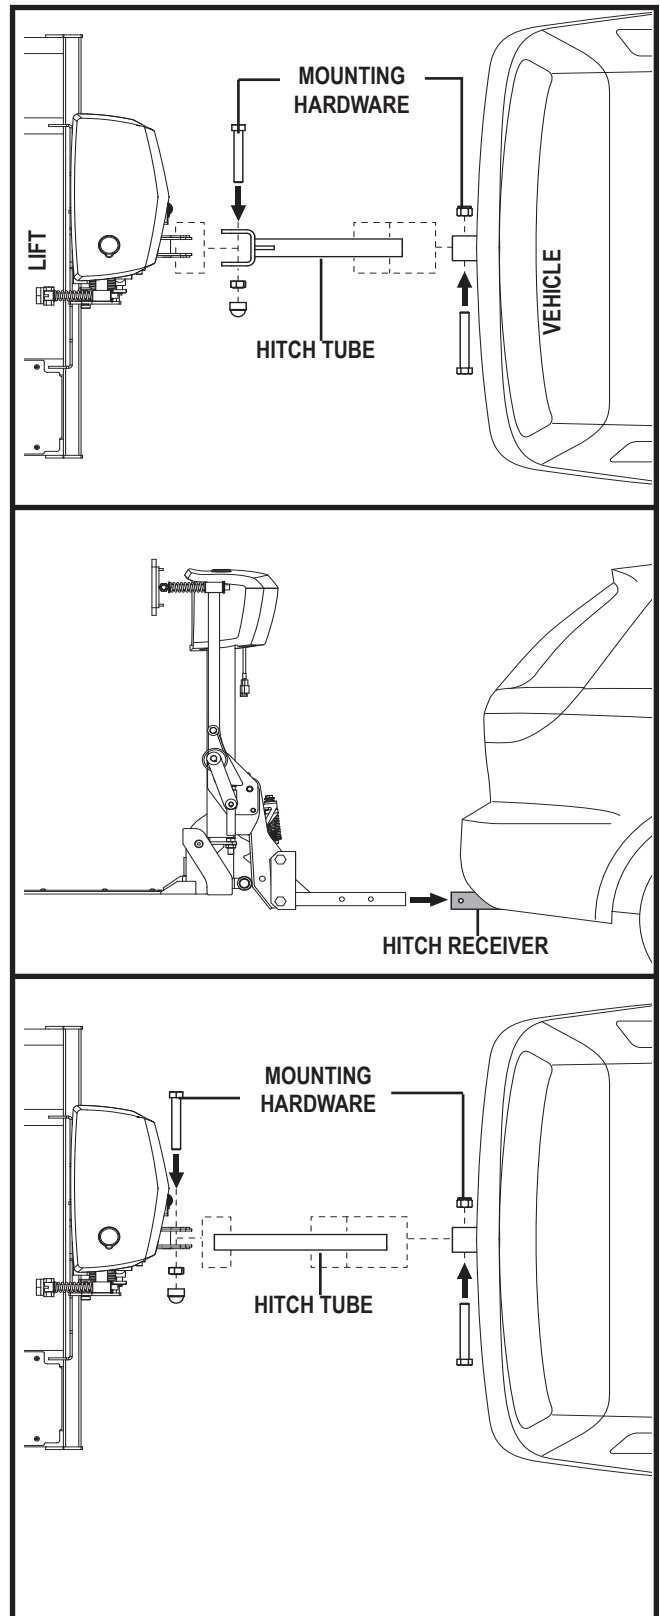

Figure 8. Hitch Tube Assembly
2. Mount the hitch tube to the lift frame using the previously removed mounting hardware. Install the hardware in the direction indicated in **figure 8.**
3. Slide the hitch tube into the vehicle hitch receiver, aligning the mounting hole closest to the lift with the mounting hole in the hitch receiver. **See figure 8.**
- Secure the hitch tube with the supplied bolt and nut, inserting the bolt from the threaded side of the hitch tube. **See figure 8.**